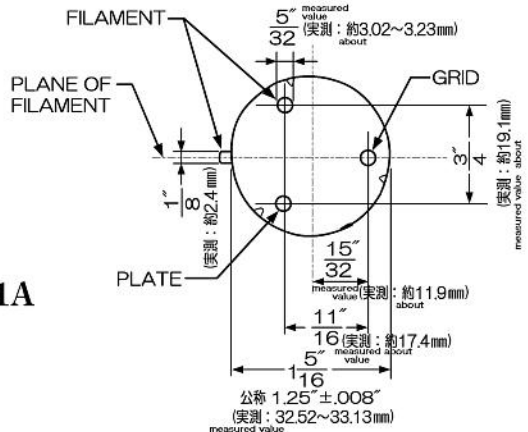
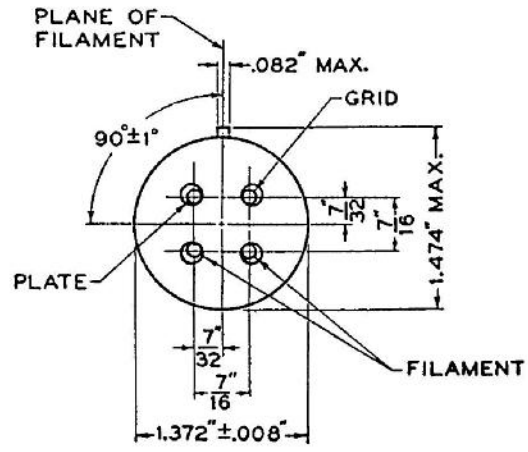

FIG. 2
FIG. 4
**Mounting Positions**—Either vertical or horizontal. If mounted in a horizontal position, the plane of the filament, which is indicated in Figure 2, Figure 4 should be vertical.